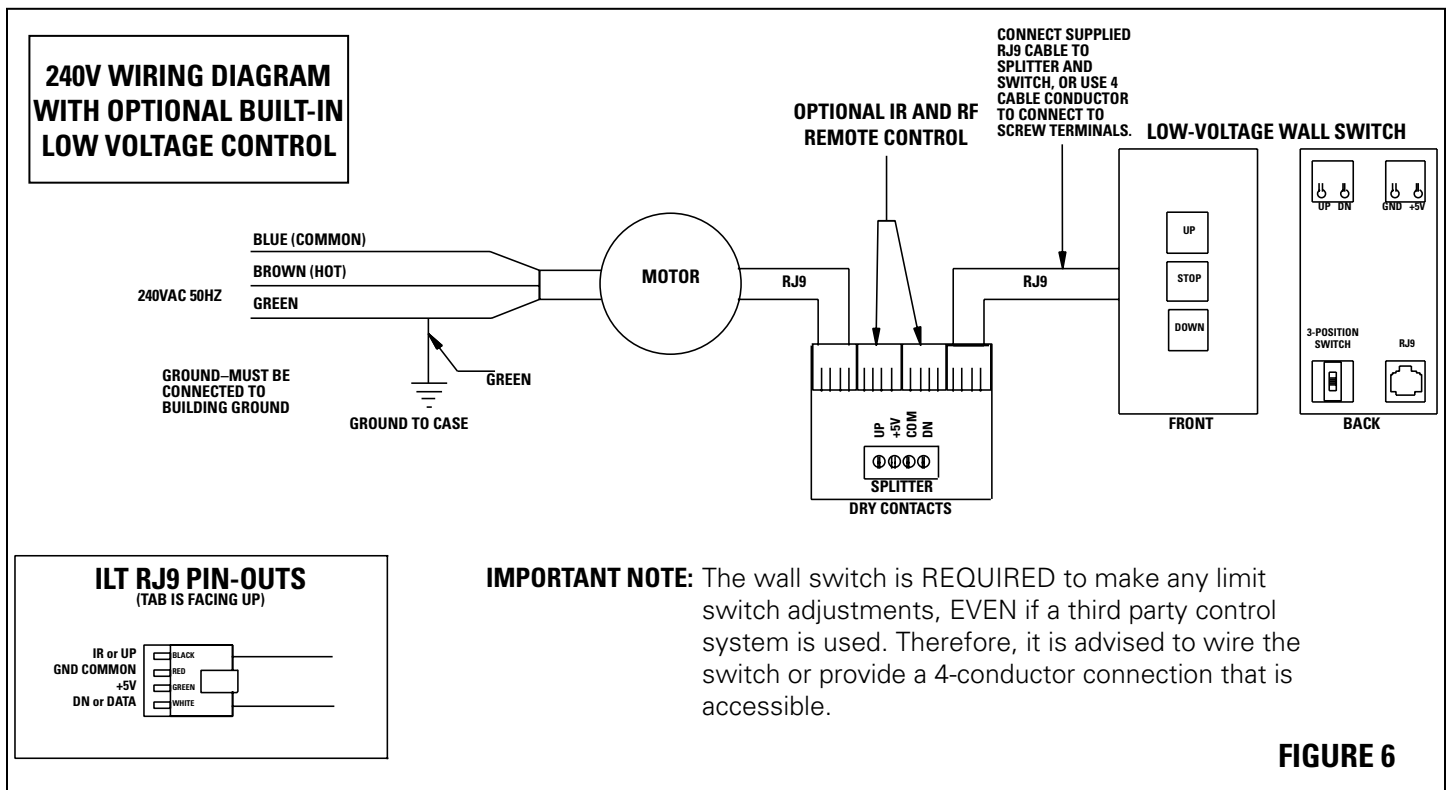

FIGURE 6
2. Locate small 3-position switch on back of wall switch. (See Figure 6)